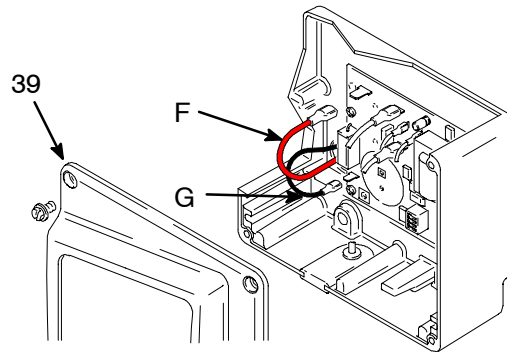

Fig. 7
3. Fig. 7. Remove pressure control cover (39). Disconnect red and black motor leads from control board.